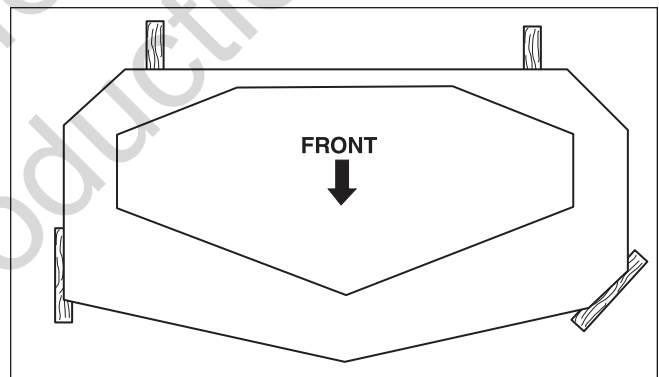

Figure 38. 2 x 4 Locations
6. Block up the mower deck until all hanger chains are slack. Refer to Figure 38.
3. Place 2 x 4 blocks under each corner of the mower deck with the 3-1/2" sides being vertical. Place a 1/4" (0,64 cm) thick spacer on top of the rear 2 x 4 blocks. See Figure 38.
3. Place 2 x 4 blocks under each corner of the mower deck with the 3-1/2" side being vertical. See Figure 38.